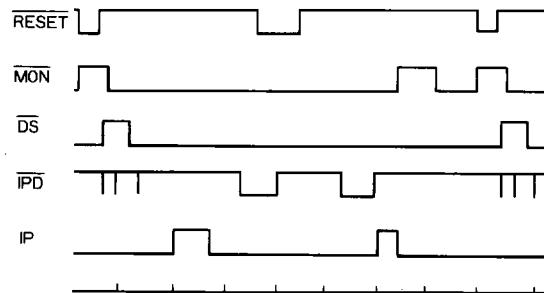

Fig.16
- (DISK CHANGE) / INDEX (Table3, Fig.16参照)